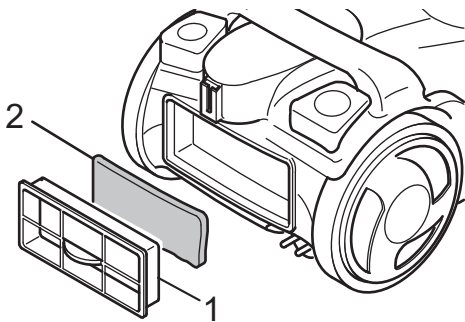

Fig.25
3. Pull the filter holder (Fig. 25/1) out of the back and remove the filter (Fig. 25/2).